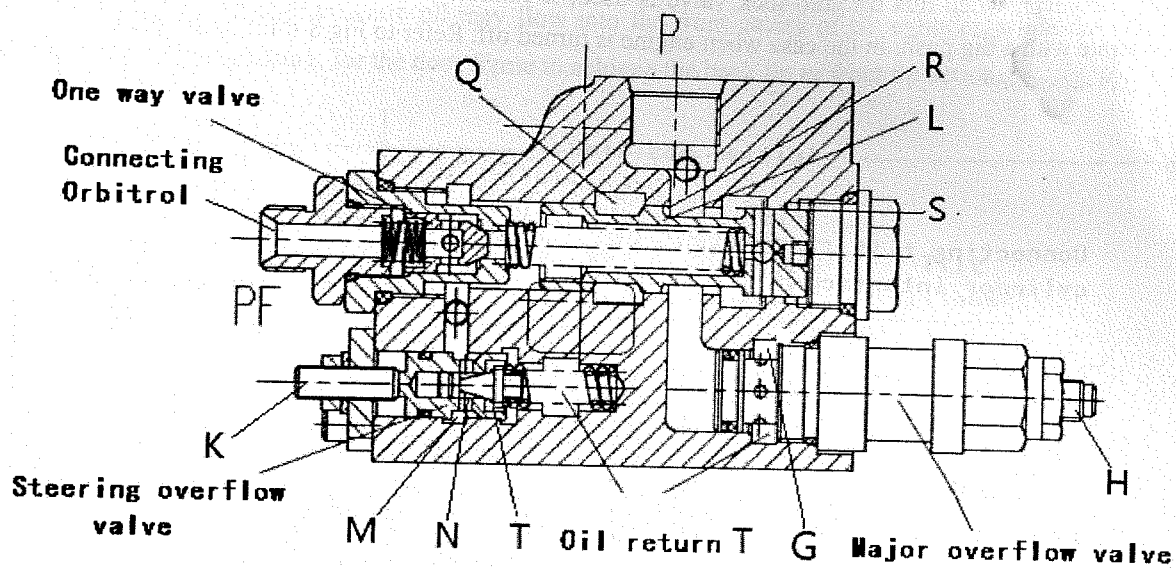

Fig 8-5
8.3.2 Main Safety Overflow Valve and Bypass Safety Valve (Fig 8-5)